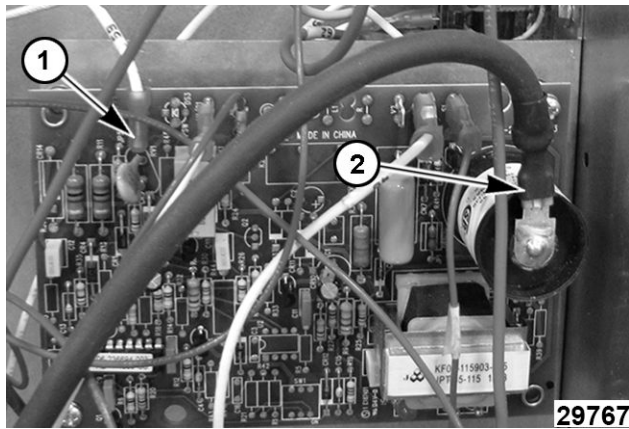

Fig. 18
2. Disconnect lead wires (1, Fig. 18) and igniter cable (2, Fig. 18) from ignition module board.